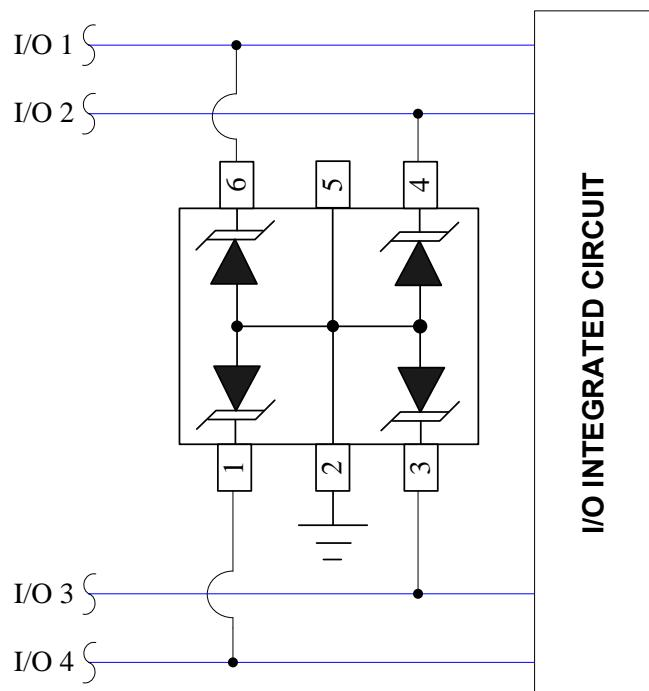

Figure 7 Unidirectional Configuration Common-Mode I/O Port Protections
The WSxxMS Series provides up to four (4) lines of protection in a common-mode configuration as depicted in Figure 7. Circuit connectivity is as follows: